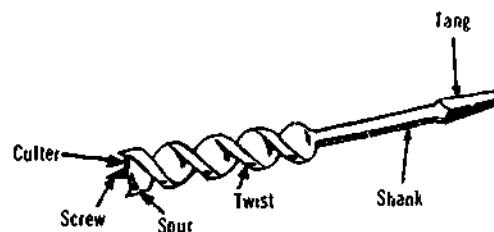

Figure 1-98. Parts of an Auger Bit
b) An auger bit is a screw-shaped tool comprising six basic parts: cutter, screw, spur, twist, shank, and tang, as shown in Figure 1-98. Sizes of auger bits are indicated in sixteenths of an inch and are stamped on the tang. A number 10 stamped on the tang means $\frac{10}{16}$ " or $\frac{5}{8}$ " (16 mm).